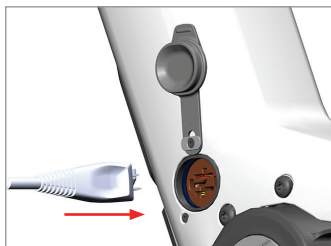

Figure 3
2. Insert the charger power cable into the charger and plug the charger into a wall outlet. Then plug the charging cable into the charging socket on the ebike, ensuring that the plug pattern is aligned (Fig. 3).